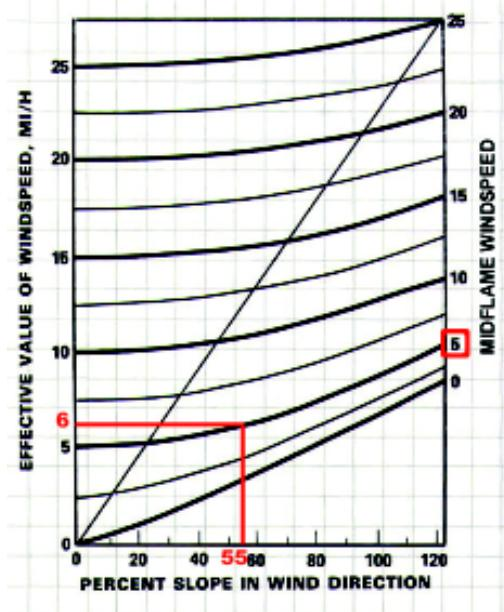

Figure 9.7—Nomogram—lower left quadrant.
a. Determine effective windspeed. In the lower left quadrant find the percent slope and draw a vertical line up. See figure 9.7.